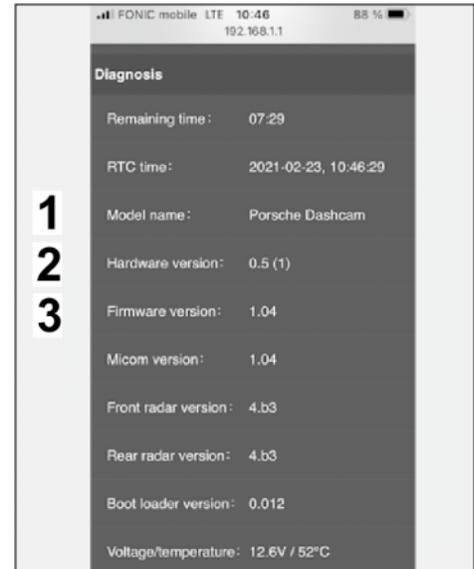

Figure 33
6.1 Information about the model name, hardware and software version, radar and more (⇒ *Figure 33*).